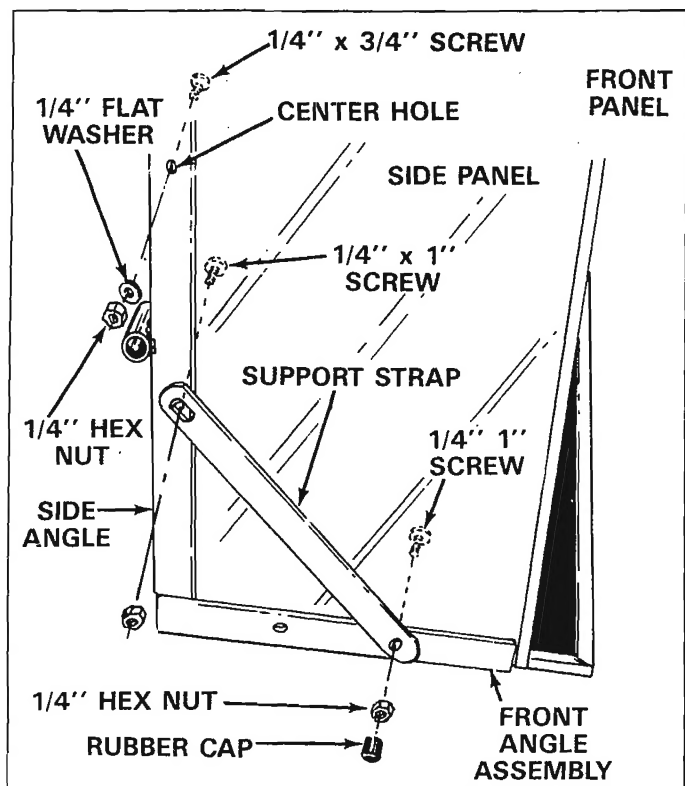

FIGURE 6
9. Place one side panel in position, against side angle and down on top of front panel. Start one 1/4" x 3/4" truss head screw through the **center hole** in side panel and side angle. Secure with hex nut and flat washer. See figure 6. **Make only finger tight at this time.**
10. Start one 1/4" x 1" truss head screw through front hole on side panel and side angle. Start another 1/4" x 1" truss head screw through top hole on side panel and front angle assembly, next place support strap over these two screws, secure with hex nuts and cover threads of top screw with a rubber cap. See figure 6. **Make only finger tight at this time.**